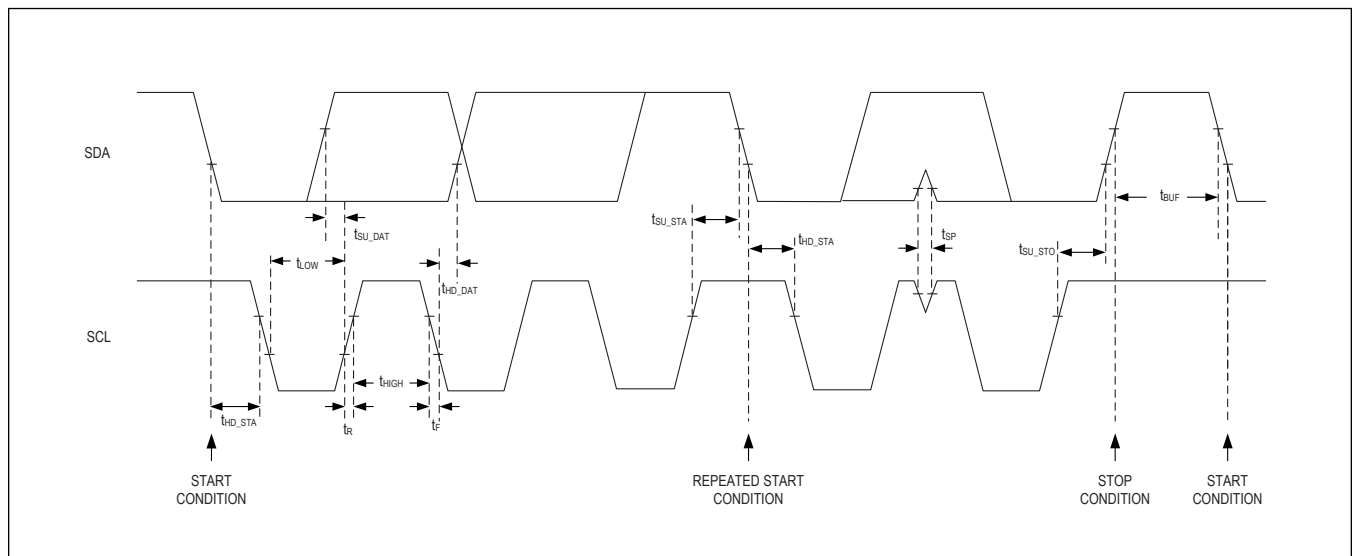

Figure 3. Detailed I²C Timing Diagram
The MAX31889 features an I²C/SMBus™ compatible, 2-wire serial interface consisting of a serial data line (SDA) and a serial clock line (SCL). SDA and SCL facilitate communication between the MAX31889 and the master at clock rates up to 400kHz. Figure 3 shows the 2-wire interface timing diagram. The master generates SCL and initiates data transfer on the bus. The master device writes data to the MAX31889 by transmitting the proper slave address followed by the register address and then the data word. Each transmit sequence is framed by a START (S) or REPEATED START (Sr) condition and a STOP (P) condition. Each word transmitted to the MAX31889 is 8 bits long and is followed by an acknowledge clock pulse. A master reading data from the MAX31889 transmits the proper slave address followed by a series of nine SCL pulses. The MAX31889 transmits data on SDA in sync with the master-generated SCL pulses.
The detailed timing diagram of various electrical characteristics is shown in Figure 3.